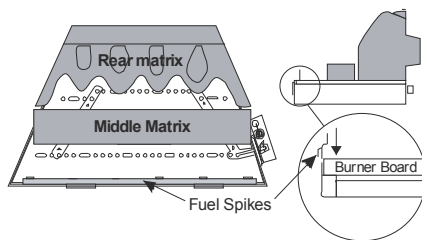

Figure 35
2. Place the **middle matrix** onto the burner board so that it keys into the triangular depression on the board (See **Figure 35**). Bring the **rear matrix** forward to touch the middle matrix.
3. Insert the front fuel spike centrally between the board and the front of the metal tray (see **Figure 35**).